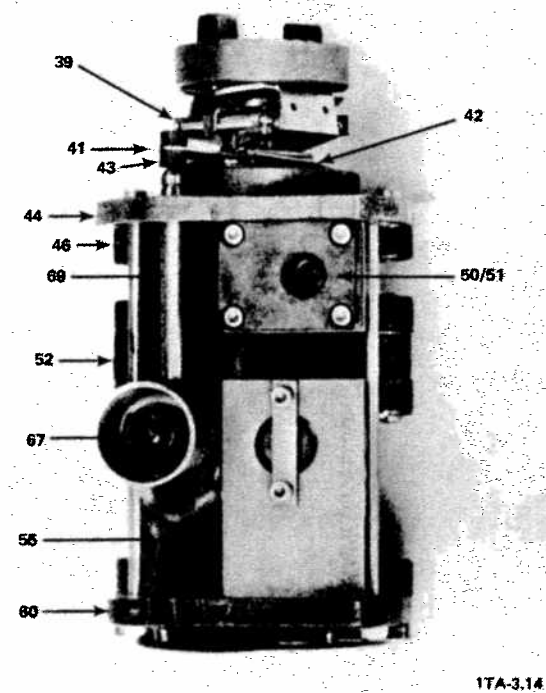
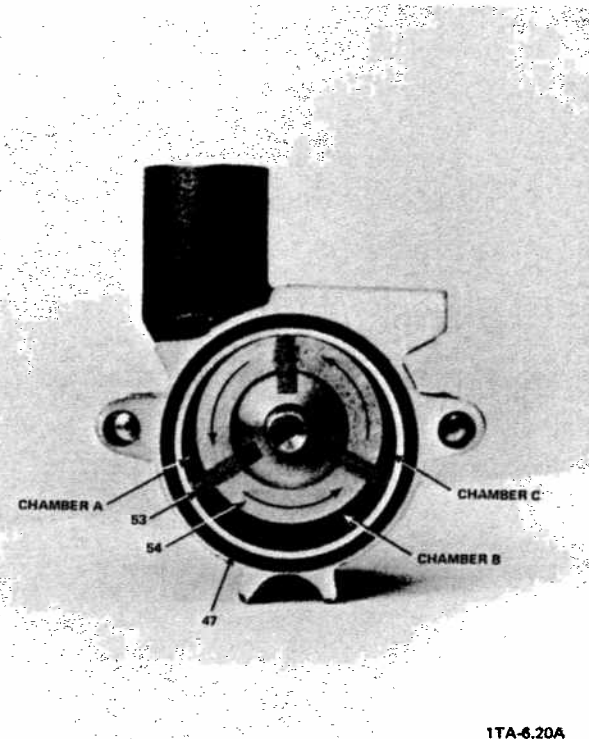

Figure 2-1. D4A Module
Figure 2-2. High Vacuum Stage Pump Cylinder With Rear End Plate Removed
The pump intake tube (1) fits into the top of the high vacuum stage pump cylinder (55). The shaft and attached rotor (54) are mounted eccentrically in the high vacuum stage housing (52/60/55). Three rectangular vanes (53) fit into slots in the rotor (54) (see Figures 2-1 and 2-2).
As the shaft and rotor (54) rotate, centrifugal force pushes the vanes (53) out against the pump cylinder (55) inner surface (see Figure 2-2). The three vanes divide the cylinder into chambers 120° apart.
One pumping cycle proceeds as follows (see Figure 2-2). Gas is drawn through the pump intake tube (1) into an increasingly large vacuum tight chamber (Chamber A). The rotation increases the size of the chamber until it is sealed off by a second vane (Chamber B). Further rotation diminishes the chamber size and compresses the gas (Chamber C). The gas is then forced out through an opening in the center bearing plate (52) and into the second stage pump cylinder (46) (see Figure 2-1).
The second stage of the pump is similar to the high vacuum stage in construction and operation. It accepts gas from the high vacuum stage, further compresses it, and then forces it out through the exhaust valve (50/51) (see Figures 2-1 and 2-3).
The primary components of the anti-suck back mechanism are the centrifugal switch (39), the lever (41) with spring (42) and seal (43), the air inlet tube (69), and the piston (68) with valve disk (67) (see Figure 2-1).
The centrifugal switch (39) is attached to the shaft. When the pump is turned off, the shaft rotation slows, causing the centrifugal switch (39) to push against the lever (41). As a result, the lever (41) opens the air inlet tube (69) (see Figure 2-1). Air at atmospheric pressure rushes through the open tube (69) and into the high vacuum stage pump cylinder (55), thus venting the pump. This air also forces the brass piston (68) and attached valve disk (67) to seal the pump intake tube (1).